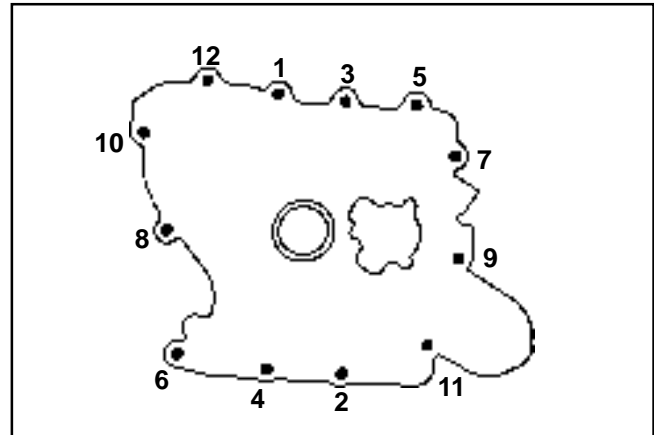

Figure 11-22. Oil Pan Fastener Torque Sequence.
4. Torque the fasteners, in the sequence shown in Figure 11-22 to **24.4 N-m (216 in. lb.)**.